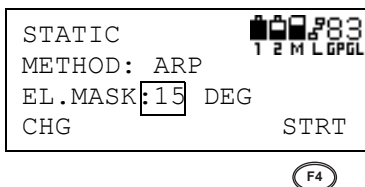

Figure 3-26. Select Elevation-mask Angle
- Scroll down to the elevation-mask angle and set the mask in increments of 1 degree (Figure 3-26).
- Press **F4** (START) (Figure 3-26).
8. Press **F4** (START) (Figure 3-26).